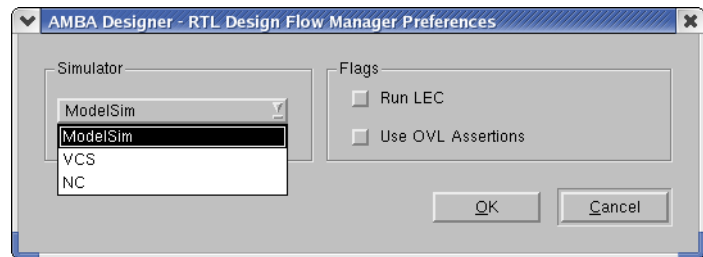

Figure 8-7 RTL Design Flow Manager Preferences
1. Click on **Preferences** in the RTL Design Flow Manager dialog box. This opens the RTL Design Flow Manager Preferences dialog box, as Figure 8-7 shows.